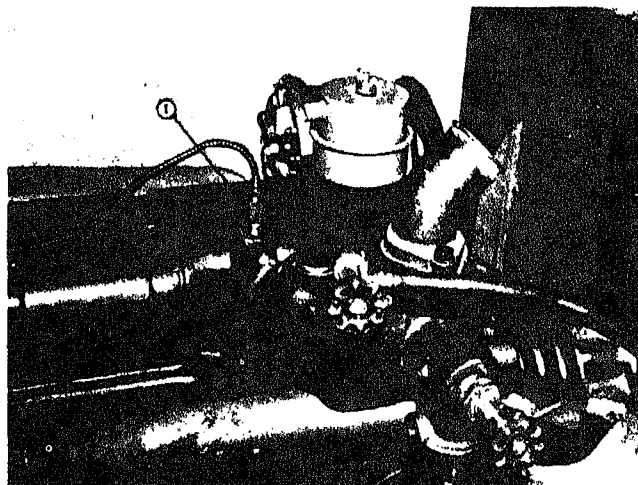

Fig. 8-8-1. Temperature gauge bulb location
1. The sensing unit of the water temperature gauge (1, Fig. 8-8-1) must be located on engine side of thermostat so bulb is in water flow.